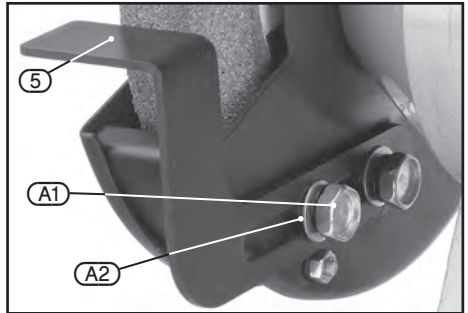

FIG.2
8.3 FITTING THE TOOL RESTS – FIG. 2
- Attach the left and right hand tool rests using the fittings from Group (A) shown in **7.2 WHAT'S IN THE BOX** section on page 12.
- Fit both tool rests (5) to the inner edge of the wheel guards using the bolts (A1) and washers (A2) provided.